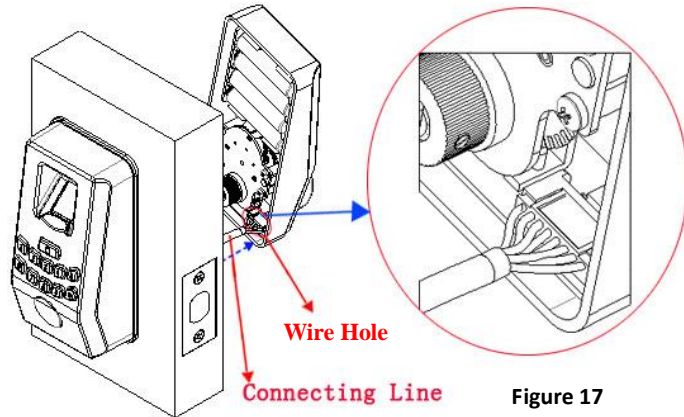

Figure 17
1. Pull the connecting wire into the plug slot of the rear panel assembly as shown in **Figure 17**: